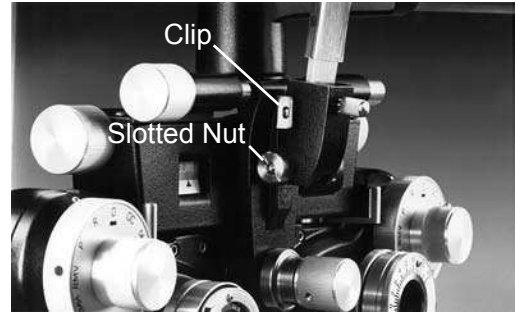

Figure MM-3 Cross Cylinder Lens Assembly
2. With a second screwdriver tighten the other nut. Refer to Figure MM-3.